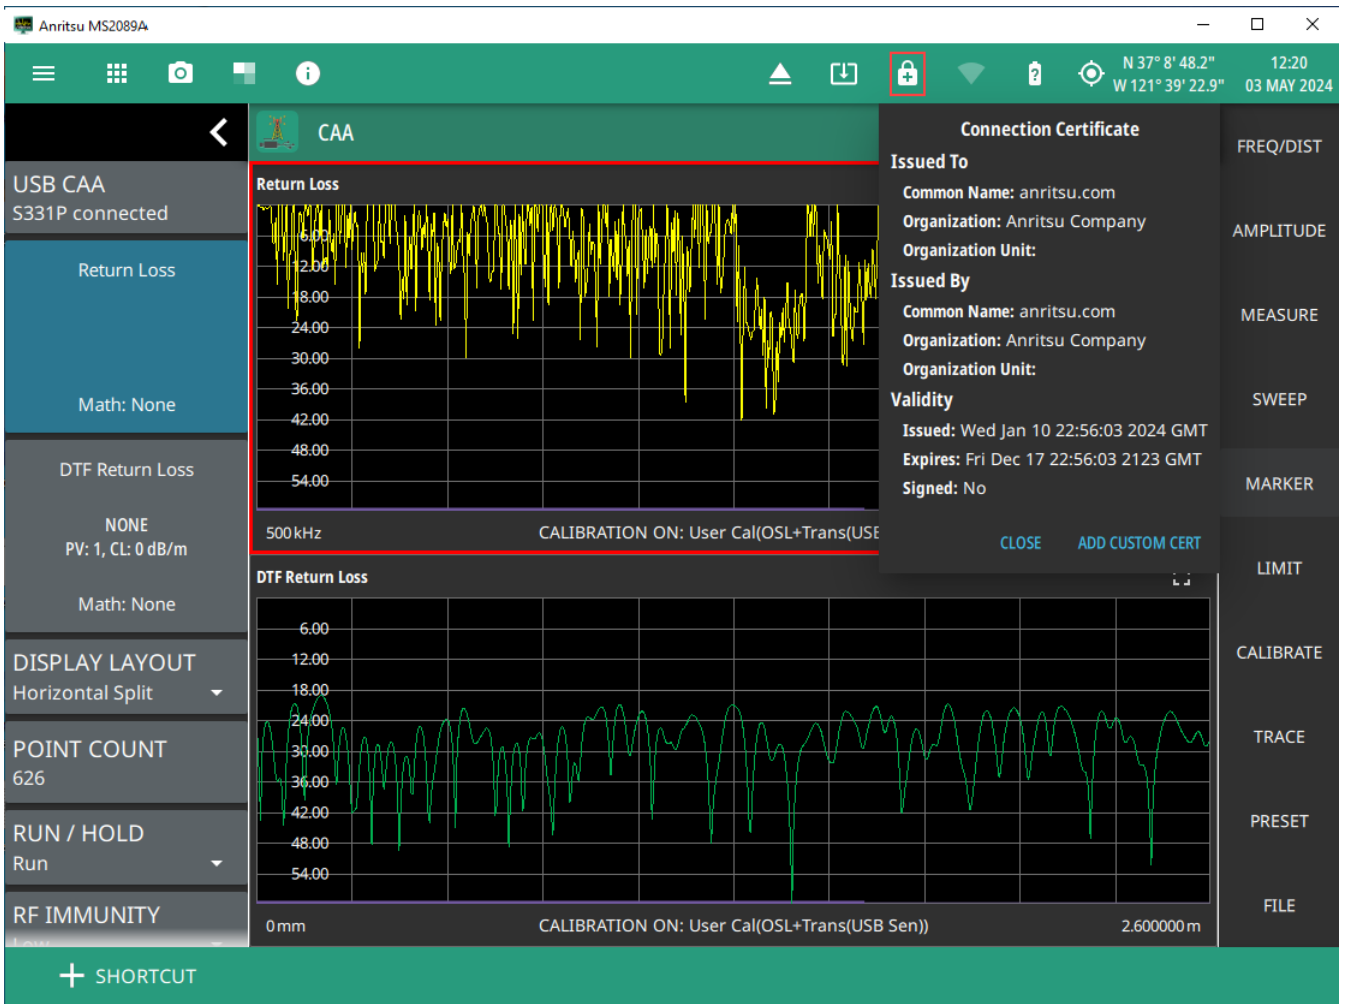

Figure C-6. Custom Certificate Icon
1. Click the connection certificate icon on the title bar (see Figure C-6).